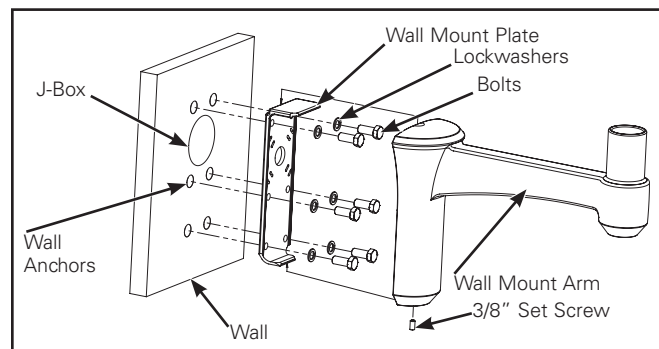

Figure 4.
1. Using wall mount plate as a template and drill (6) holes. (Figure 4.) Install appropriate wall anchors (not supplied) Silicone caulk around junction box and wall anchors. Secure wall mount plate to wall with (6) 1/2-13 x 1-1/2 long bolts and six (6) lock washers. Torque bolts to a minimum 37 ft-lbs. to secure accessory- see note below.